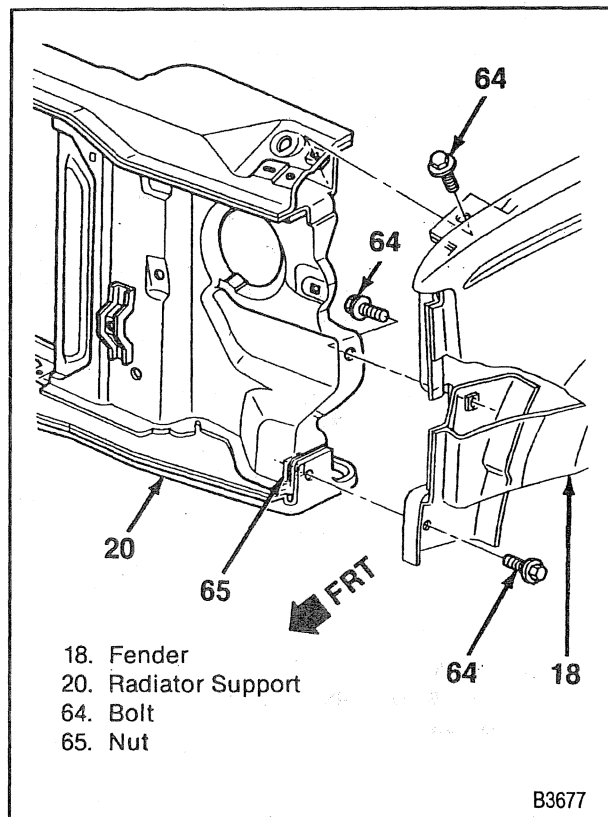

Figure 22—Fender to Radiator Support Attachment
18. Fender to the radiator support bolts (figure 22).